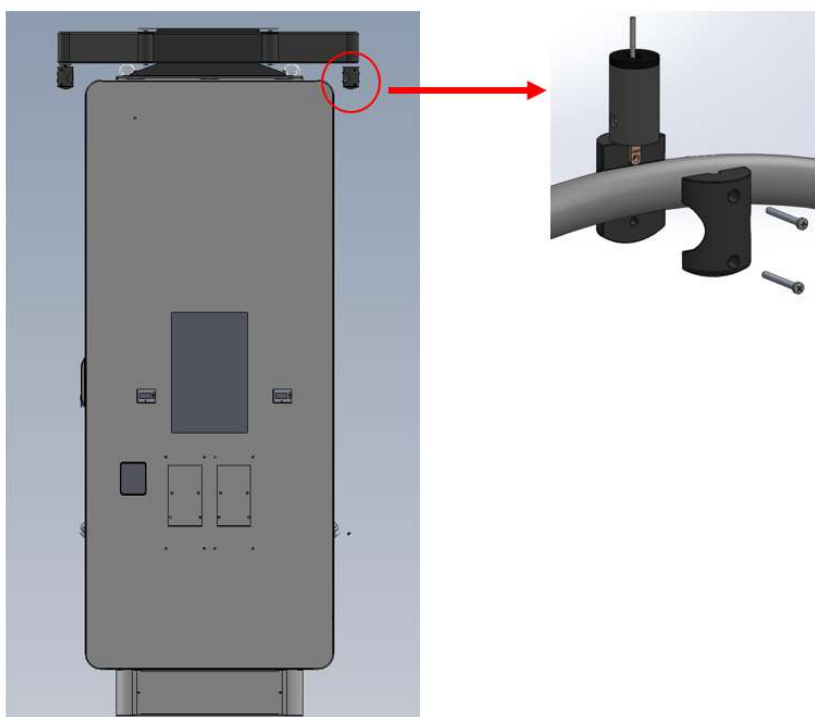

Figure 8 Schematic diagram of charging cable fixing
- (3). Install nuts and washers on the anchor bolts to fix the charger.
- (4). Reinstall the base sealing plate and the charger is fixed.
- (5). Fix the charging cable on the cable management system (CMS) by cable clamp, as shown in Figure 8. The length of the charging cable from the gland to the clamp is 2.3 m. During the whole installation process, keep the charging cable sagging naturally to avoid knotting and torsion caused by external force.